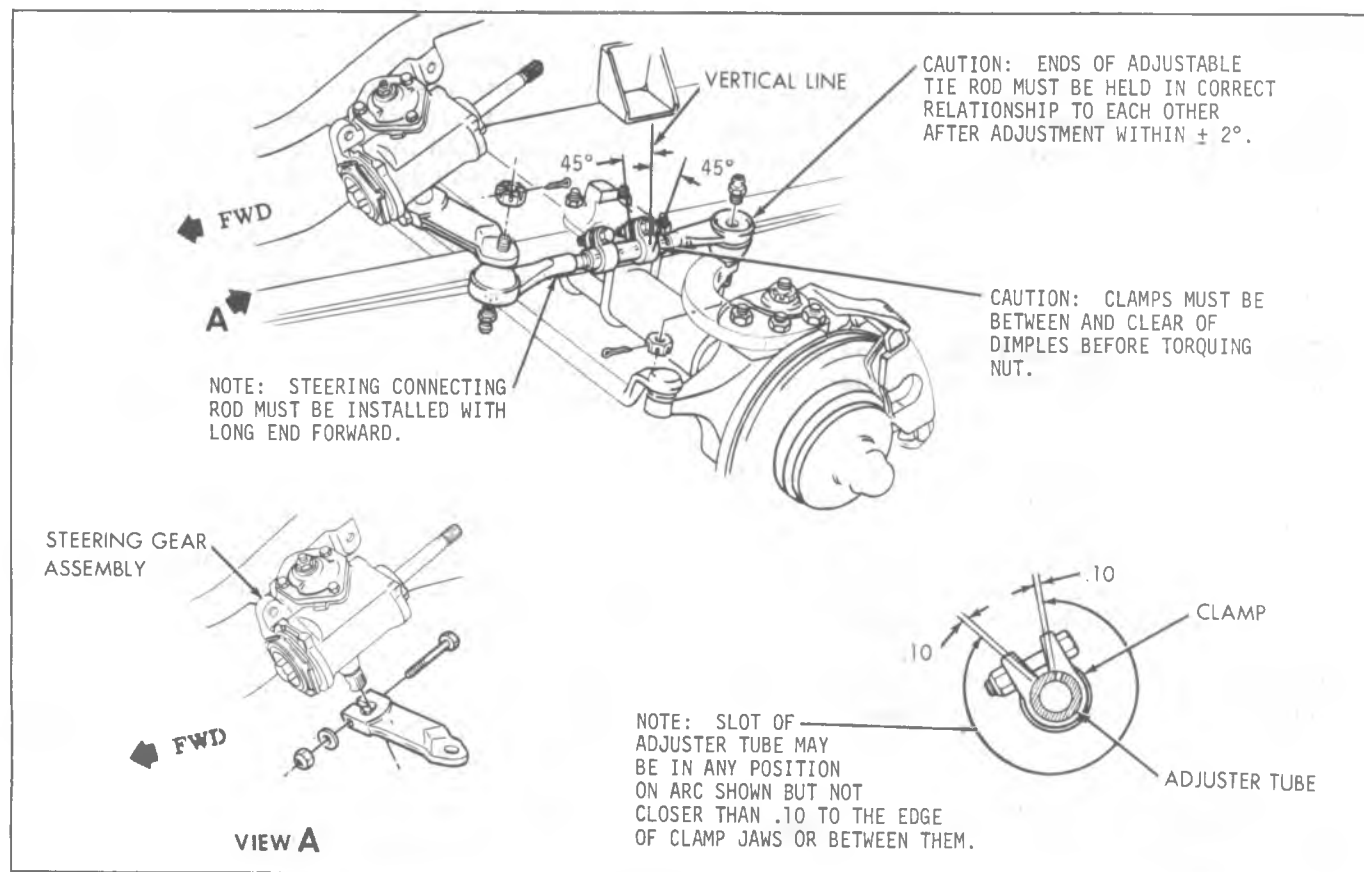

Fig. 3B1-11--Adjustable Connecting Rod Assembly-K Series
2. Remove ball studs from steering arm and pitman arm boss with a heavy hammer and striking other side of boss with lighter hammer (similar to method shown in (Fig. 3B1-7).
NOTICE: For proper alignment and orientation of connecting rod clamps see Figure 3B1-11.